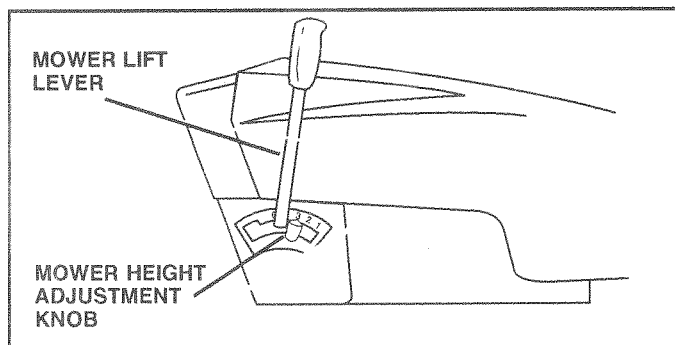
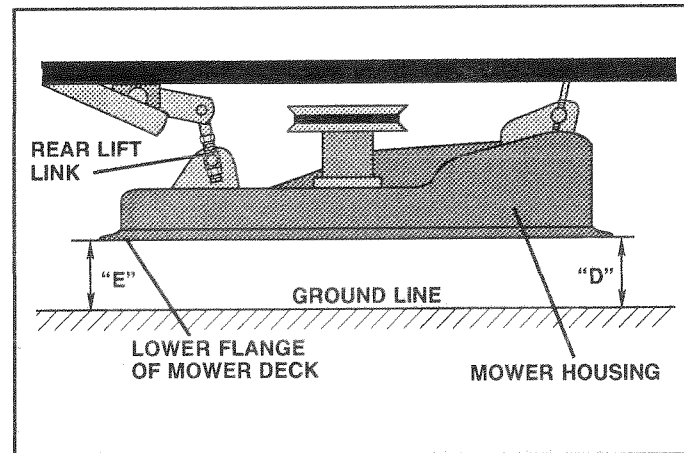

FIG. 19
FIG. 22
## TO LEVEL MOWER HOUSING (See Fig. 19 - Fig. 22)
- Place mower height adjustment knob in position "3" (See Fig. 19).